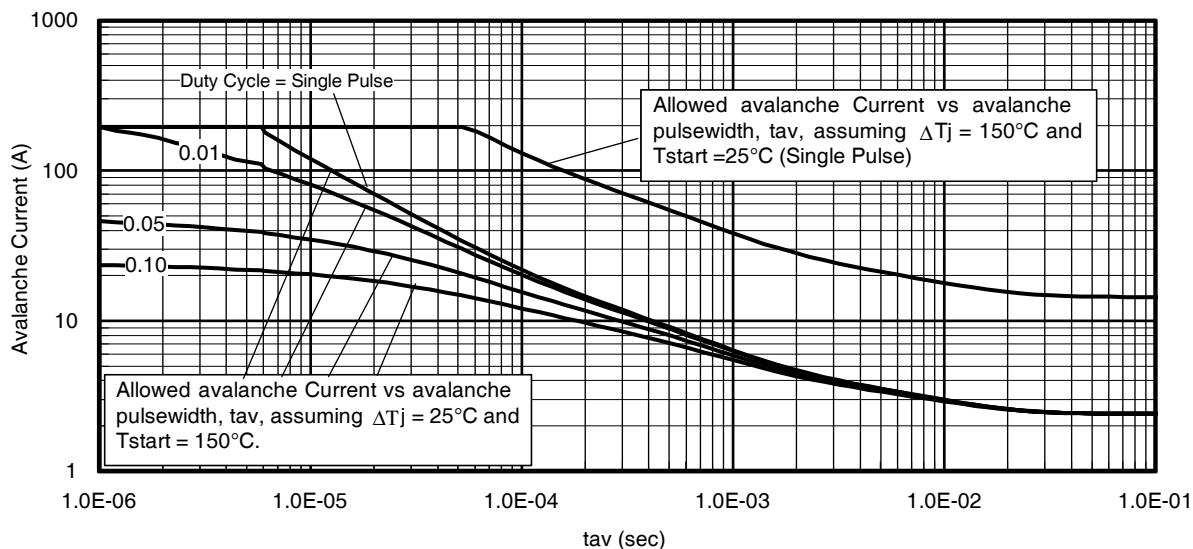

Fig 14. Typical Avalanche Current vs. Pulsewidth
Notes on Repetitive Avalanche Curves , Figures 14, 15:
7.  $\Delta T$  = Allowable rise in junction temperature, not to exceed  $T_{jmax}$  (assumed as  $25^\circ C$  in Figure 14, 15).